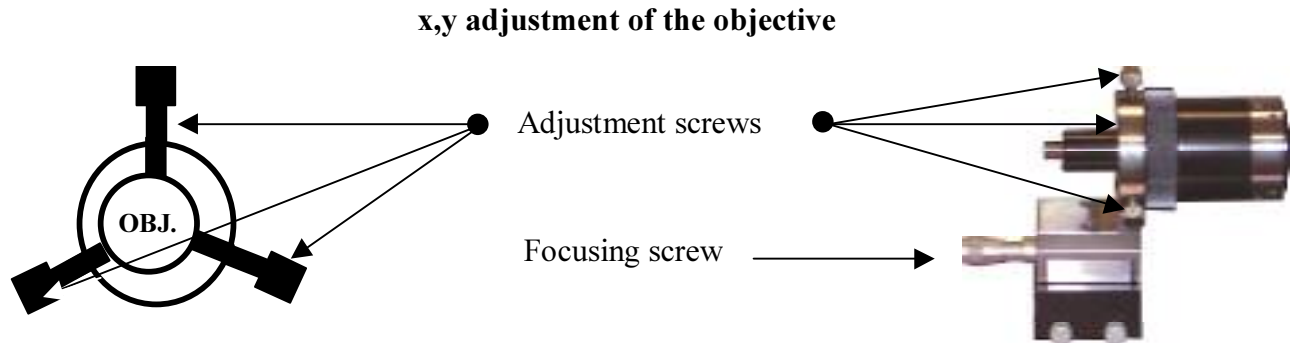

Fig 21
- 3) Look into the microscope. Use the three adjustment screws on the objective, fig 21, to find the light spot. It may be necessary to first look right on the pinhole, not through the microscope, to find it. As can be seen in fig 21, it is possible to move around the objective in the outer ring, with the adjustment screws.
- 4) When you can see the spot in the microscope, adjust the focusing screw, fig 21, so that the spot becomes as small as possible, fig 23. At the same time, you may have to adjust the pinhole, by turning it back and forth a little bit, so that the spot is as clear as possible. As can be seen in fig 24, the spot will be bigger if you increase the distance to the pinhole (c). The same thing will happen if you decrease the distance (a). After adjustment of the three screws on the objective and the focusing screw, the picture in the microscope should look like in fig 24 b.